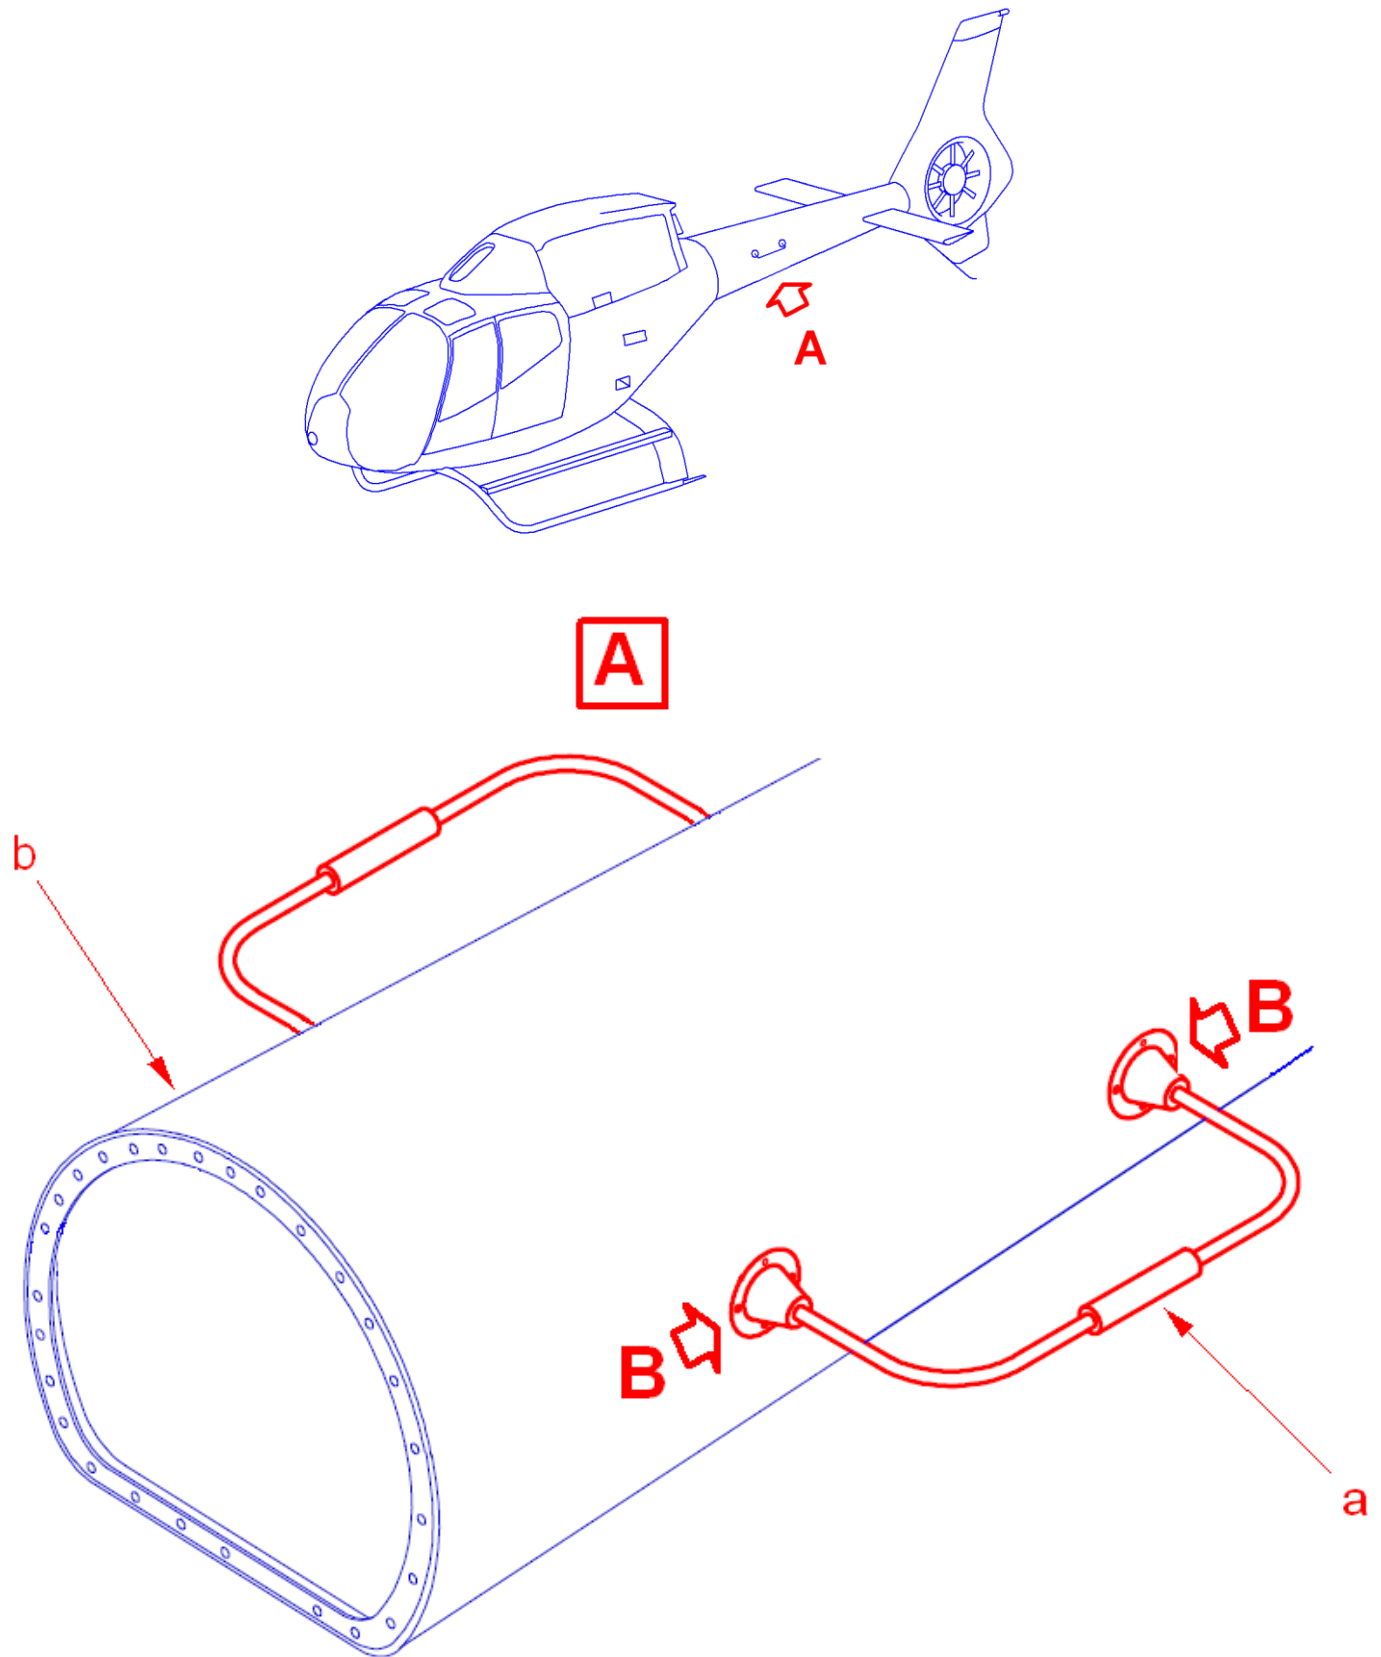

Figure 1
##### 3.B.2.a. Check for corrosion and cracks under the LH VOR antenna mounting bases or blanks (Figure 1)
- Remove the antennas (a), if installed, or the blanks installed in place of the VOR antennas, as per AMM Task 34-55-02, 4-1 (Figure 1).